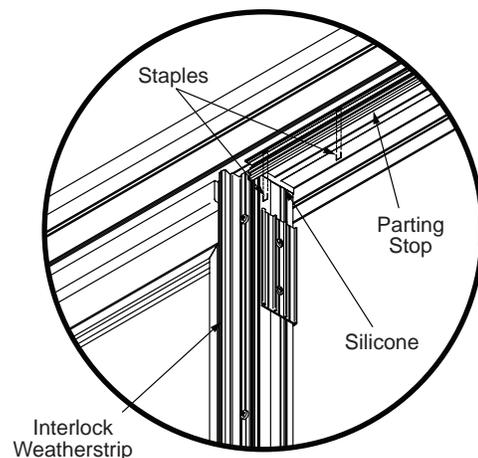

Figure 13
- Install the weather strip into the Interlock from the top and slide weather strip down to bottom of interlock (Fig. 13).
- Add a strip of silicone at top corner of stationary panel (Fig. 13).
- Install the aluminum parting stop into the headjamb. The center of the parting stop should be equal distance from each end of the frame. Attach 3/8" staples approximately 6" to 8" apart (Fig. 13 & 14).